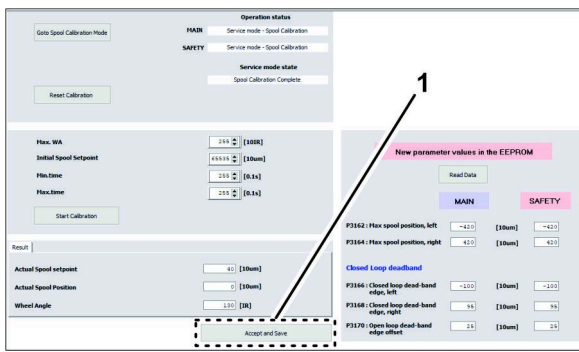

Figure 51
5. At the bottom of the spool calibration screen, click the ACCEPT AND SAVE icon (Figure 51).